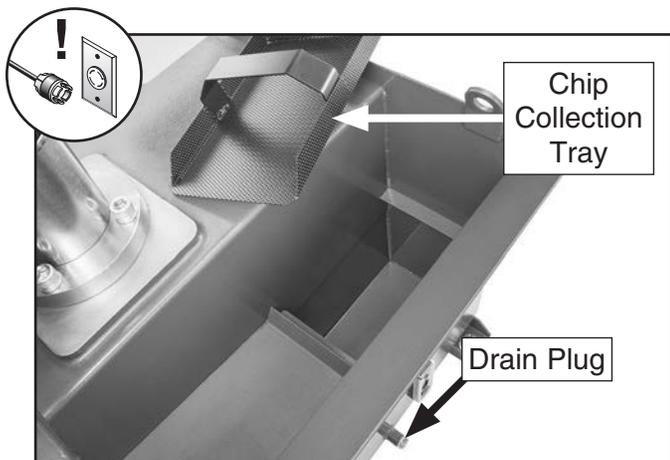

Figure 74. Coolant drain plug location.
2. Remove chip collection tray (see **Figure 74**) from machine base. Clean chip collection tray.
3. Remove drain plug (see **Figure 74**), empty tank contents into drain pan, and dispose of coolant following federal, state, and cutting fluid manufacturer requirements.